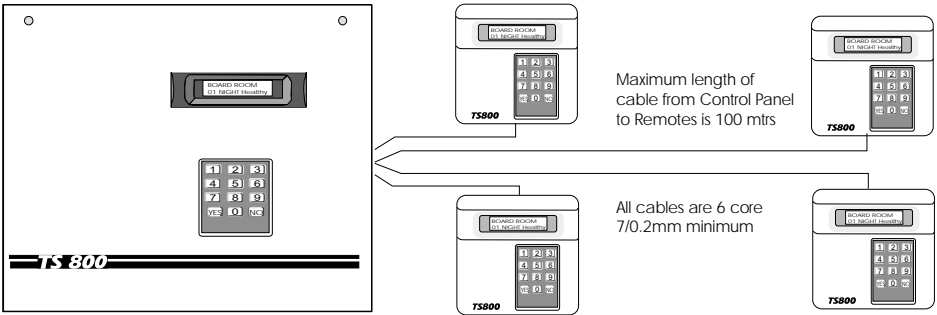

Fig 6 Remote Connection - Star Method
- (2) In a star configuration in which case the cable between the Remote Keypad and Panel must not exceed 100m to prevent excessive voltage drop in the cables (Fig 6);